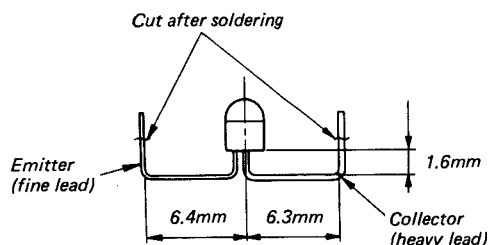

Fig. 1-3-11 Forming of photo transistor leads
4. Bend leads of a new photo transistor as shown in Fig. 1-3-11.